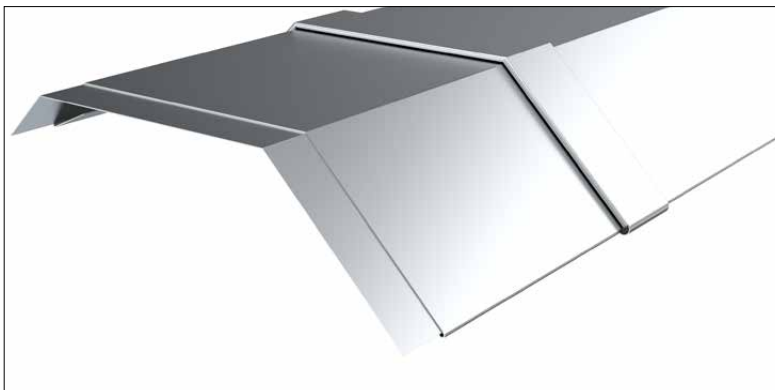

Figure 7.1.4
- the zinc cappings must be soldered to one another up to a maximum of 12 meters length with an overlap of at least 15 mm. After every 12 meters an expansion sleeve must be fitted at one's option, see figure 7.1.4.